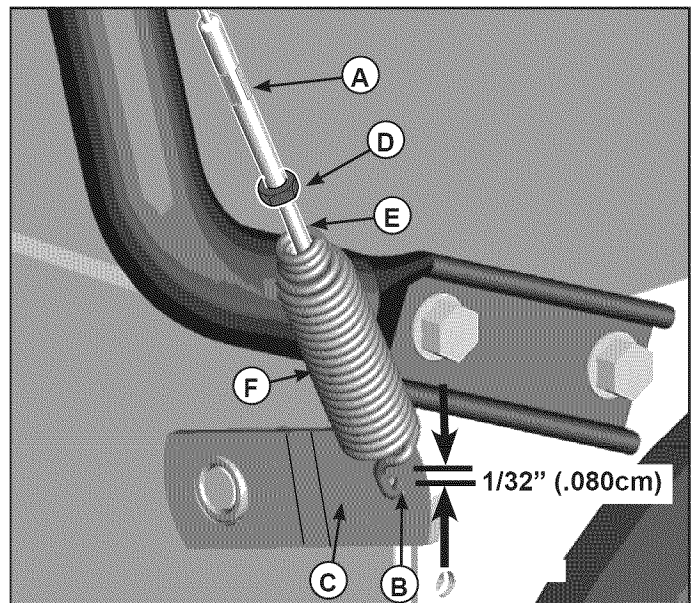

Figure 35. Auger Drive Adjustment
2. With the drive lever released, the hook (B, Figure 35) should barely touch the lever (C) without raising it. There can be a maximum 1/32" clearance as shown.
3. To adjust, loosen nut (D) by holding the adjusting flats (A) and turning nut (D). Turn adjustment flats and hold screw. The adjustment screw is a phillips screw and the head can be held or turned by inserting a screwdriver through the spring (F).
4. Hold adjusting flats (A) and tighten nut (D).